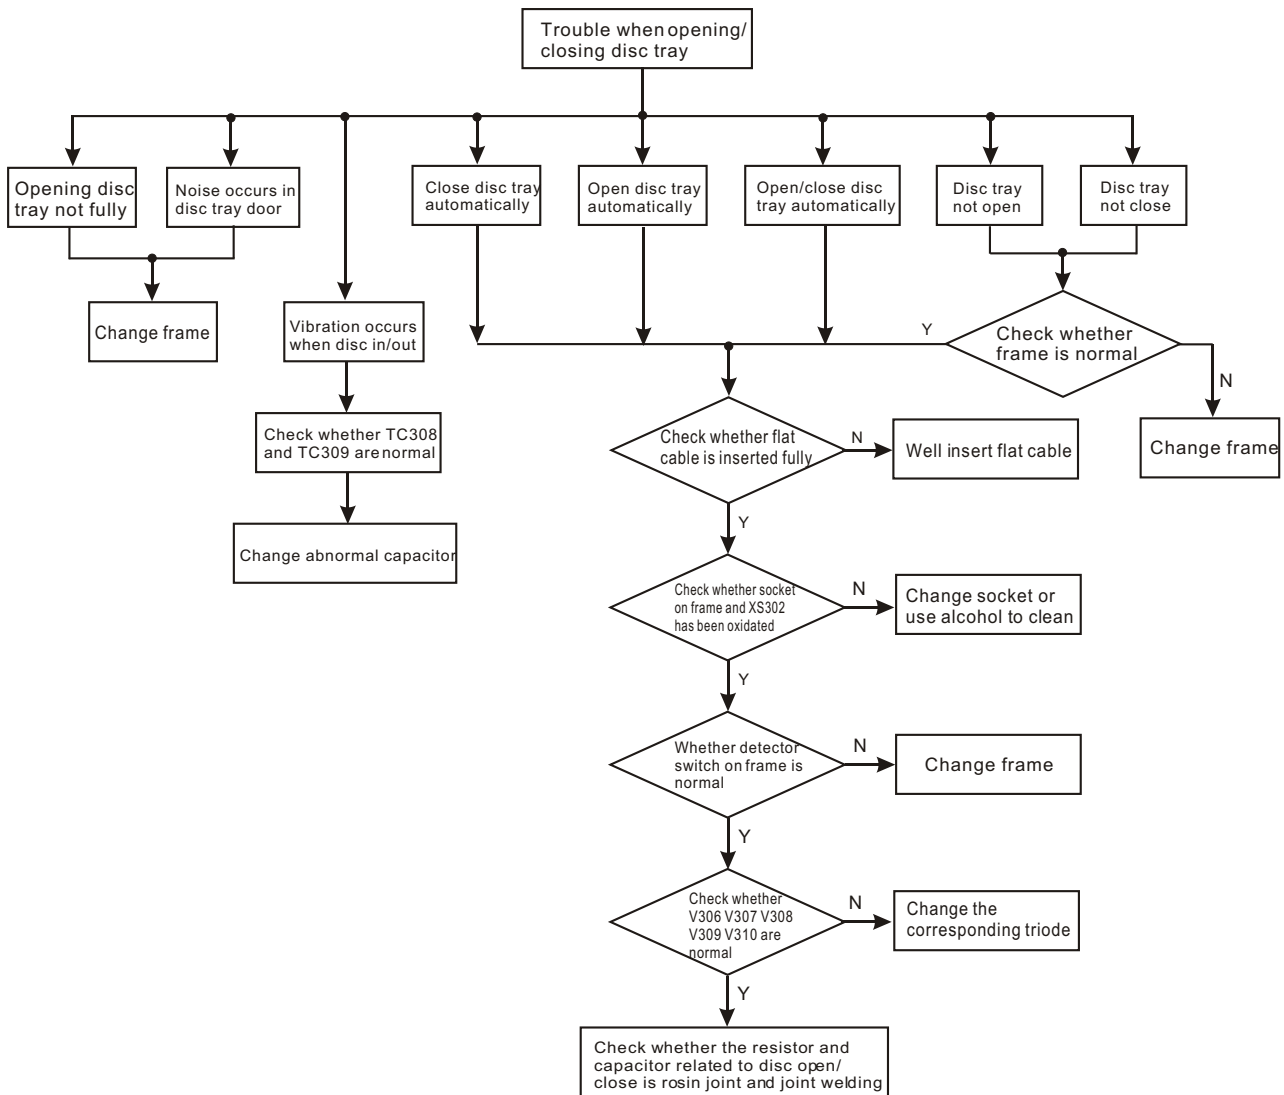

Figure 3.2.6.2 Troubleshooting flow chart when opening/closing disc tray
3. Troubleshooting process is shown as the following figure 3.2.6.2: